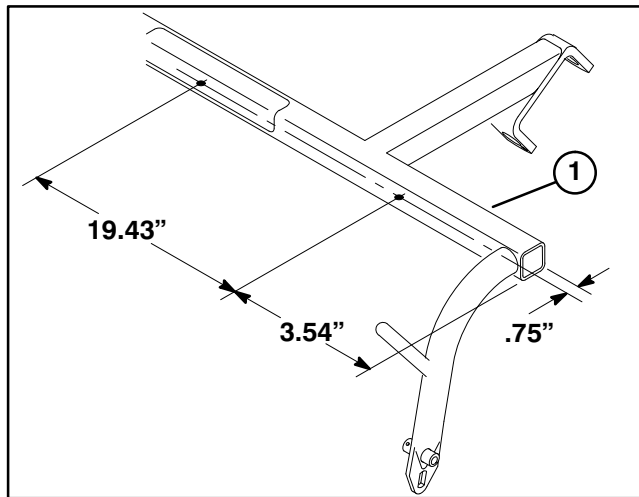

Figure 1
1. Using dimensions shown in figure 1, locate, mark and drill (2) .221" dia. holes in underside of each pull frame cross tube.